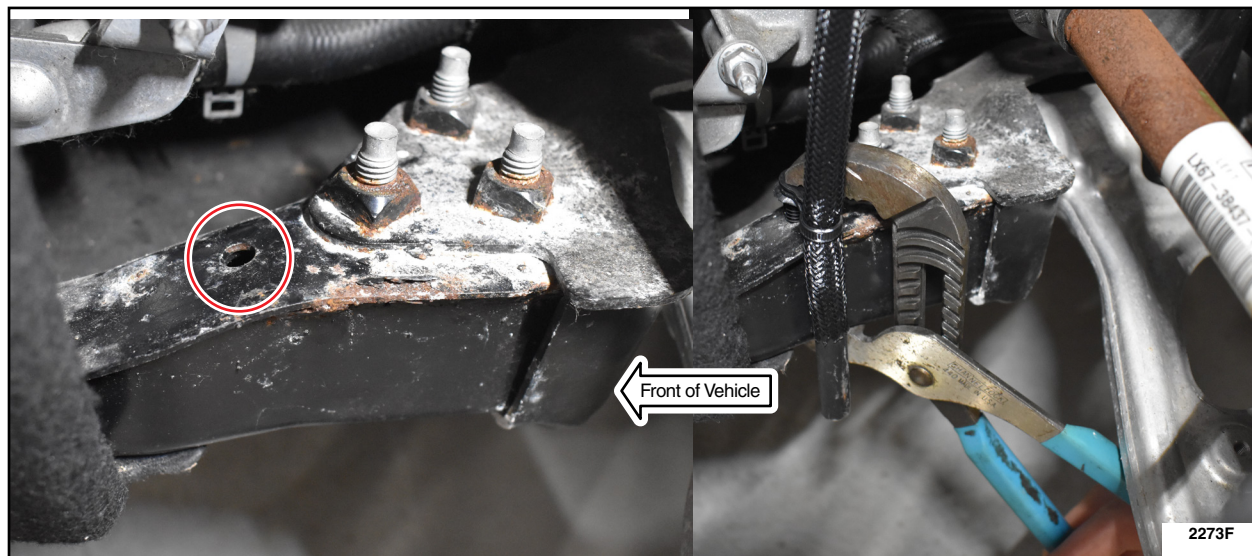

FIGURE 6
9. Attach hose to subframe. Position fir tree fastener and push in as far as possible. If needed you can use groove joint pliers to secure fir tree fastener fully into the hole in the subframe. See Figure 6.